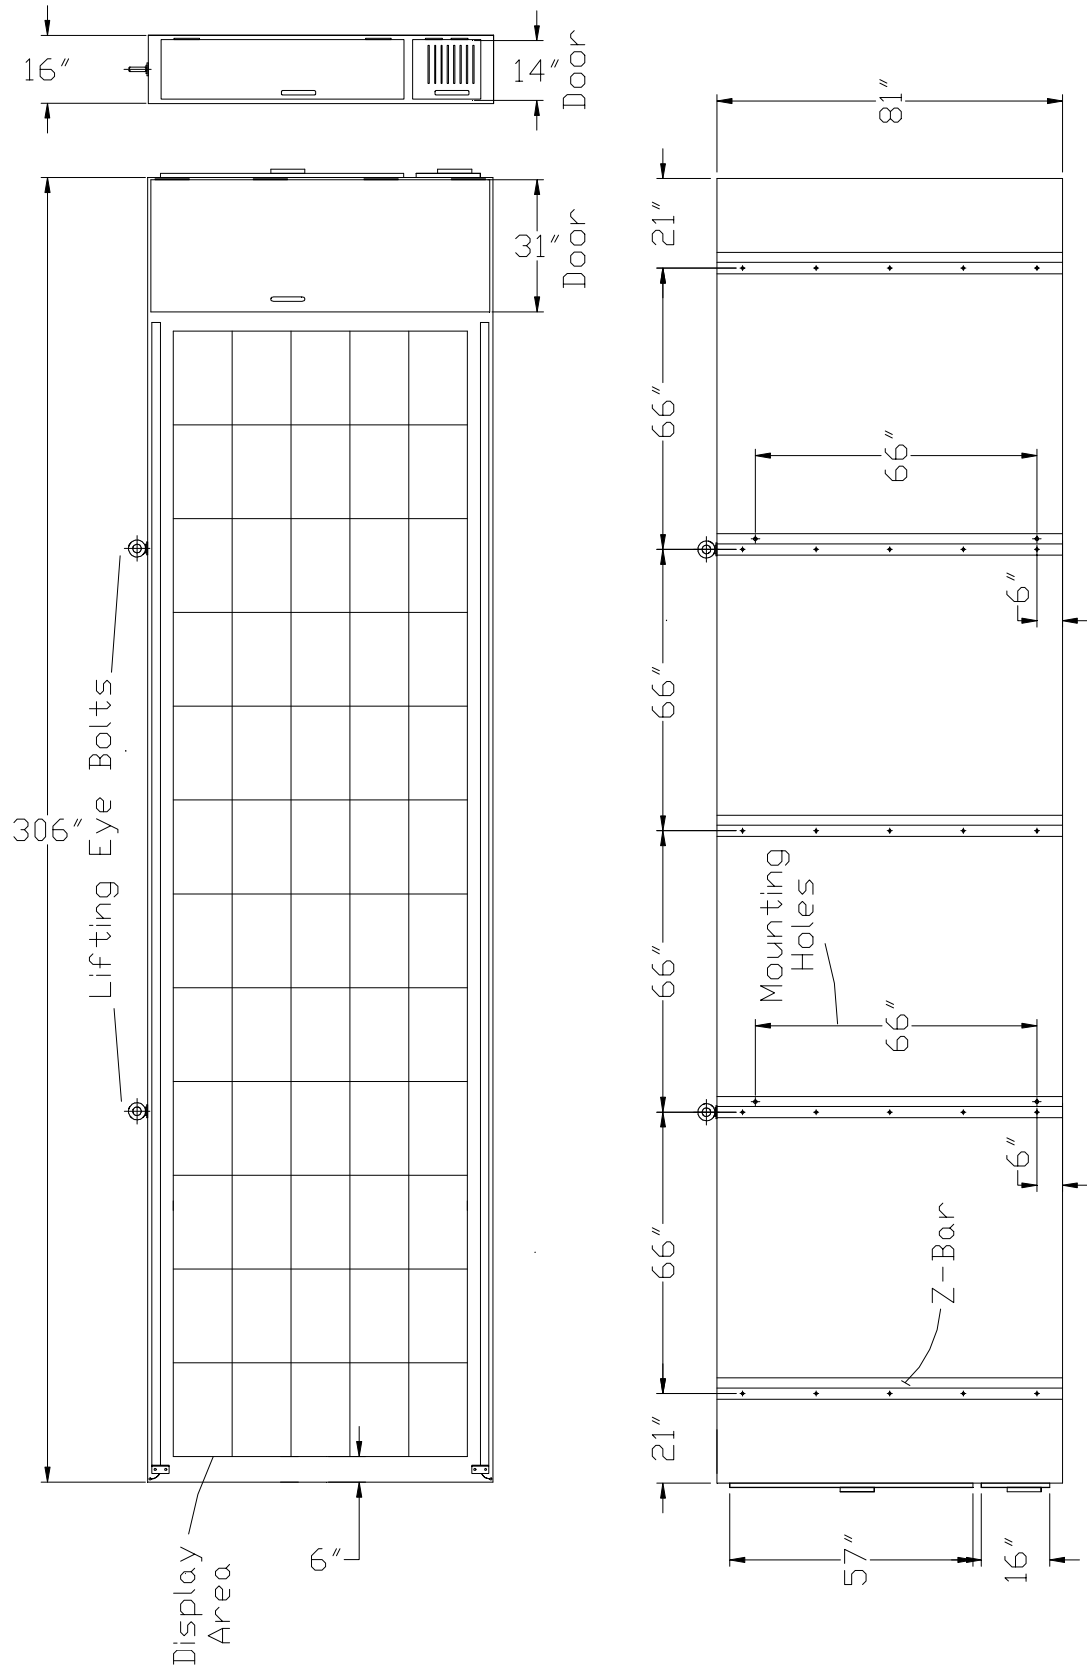

Fig. 3: CMS Model 500 Housing Dimensions.
- 2) Verify exterior housing dimensions, use figures 3,4 and 5 shown on the following pages as a guide: